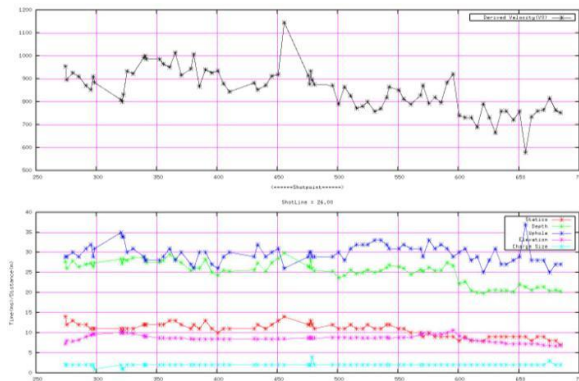
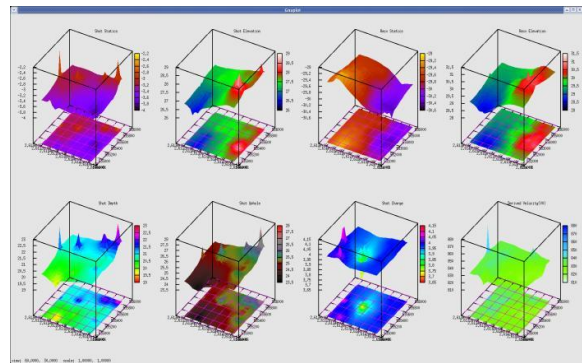
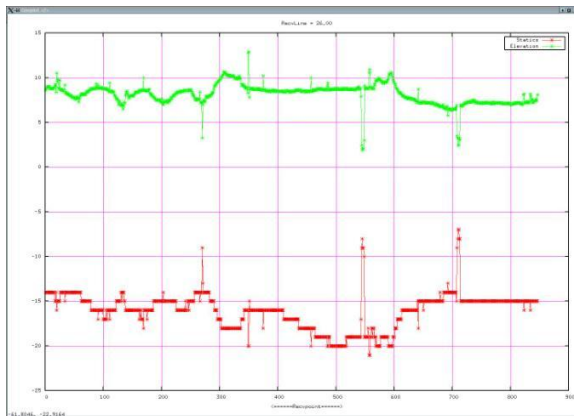
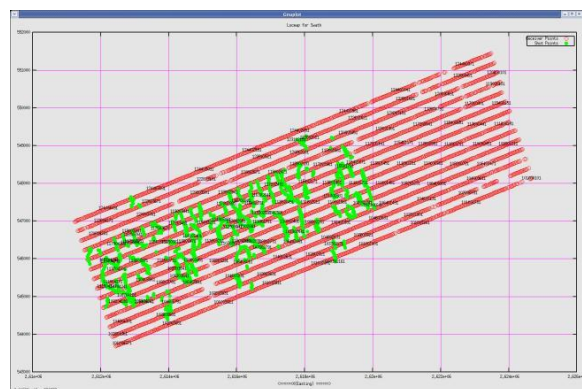

Fig 5 Visualization of Statics /Elevation/ Uphole / Depth/ Charge/ Derived Velocity correspondence map across a SL in 2D mode on Merged Data
Fig 6 Visualization of Point attributes along the entire swath in 3D mode (Regional Variations) on Merged Data
Fig . 4 Visualization of Statics/Elevation correspondence map across a RL in 2D mode on Merged Data
Fig 7 Visualization of Base map for Positional QC in 3D mode on Merged Data
**Visualization of Attributes** – 3D & 2D mode is possible for all shot/receiver attributes with positional QCs as depicted in **Fig. 4** (for Receiver), **Fig. 5**(for Shot), **Fig.6 representing Statics (S/R)/ Elevation (S/R)/ Depth(S)/ Charge(S)/ Velocity(S) cubes for entire swath and Fig.7 representing the basemap**